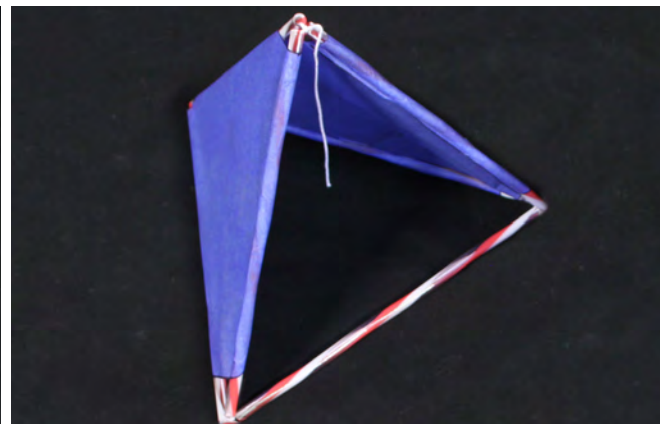

Fig. 14 Covered Tetrahedron
3. Each tetrahedron will have strings that are free. Use those free strings to tie one tetrahedron to another. This will tie the adjacent base vertices together. See picture below (figure 14).